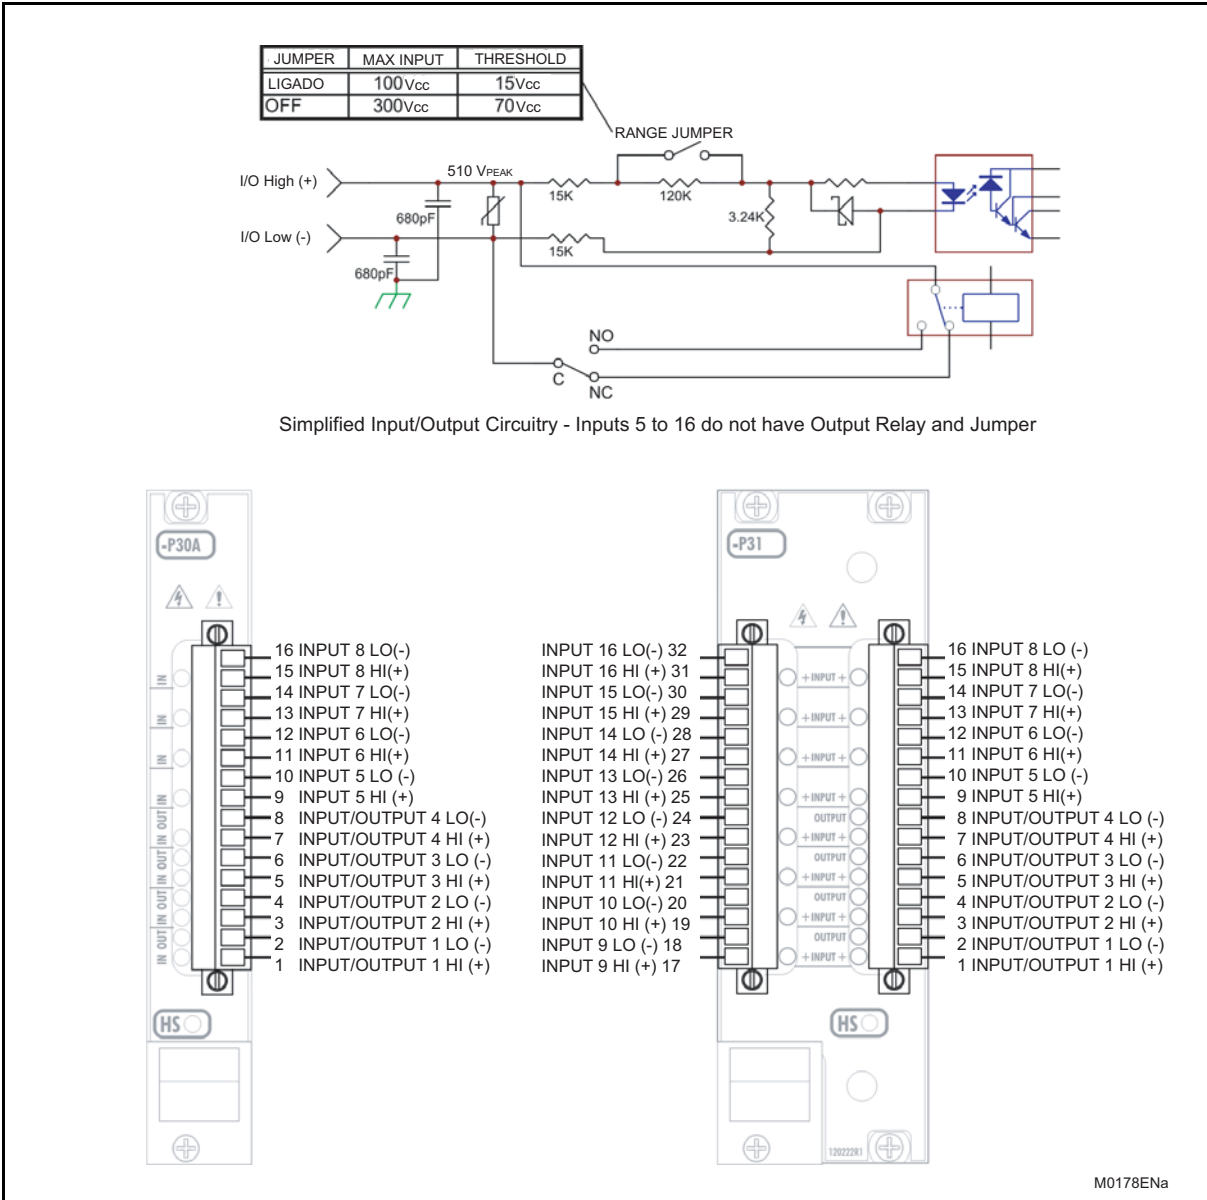

FIGURE 14 - SIMPLIFIED INPUT / OUTPUT CIRCUITRY AND TERMINAL ASSIGNMENT
1. Remove the six screws (three per side) indicated in Figure 14, and set aside the shields labelled PCB 712. Identify the main circuit boards that comprise the P31 assembly. They are labelled 693, 692, and 716.